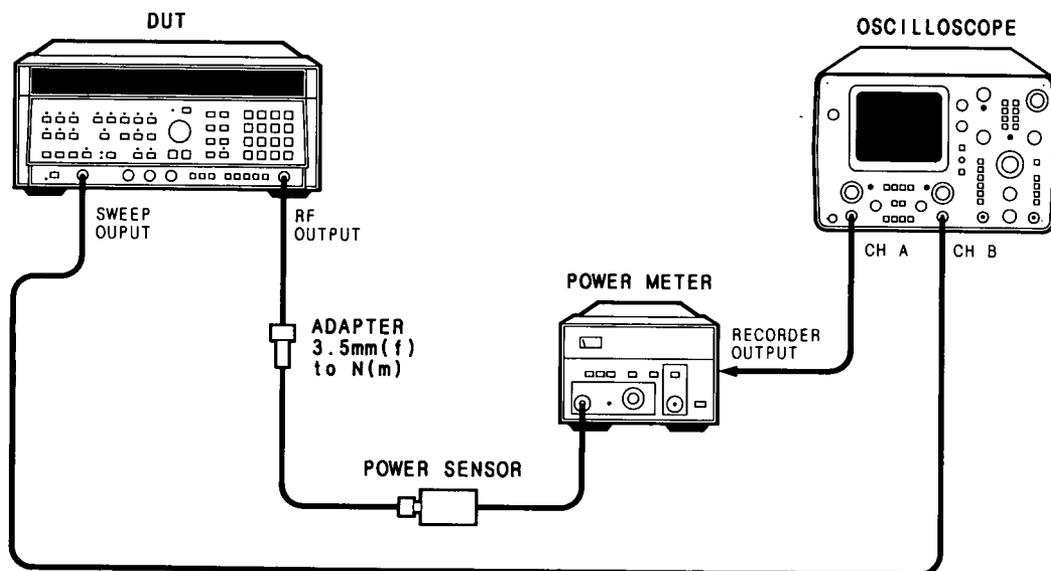

Figure 5-61. RF Output Power Flatness Setup
2. Connect the HP 8485A power sensor to the power meter and then turn the DUT's and the power sensor's LINE switches ON. Connect the oscilloscope as shown in Figure 5-61. Allow 30 minutes for the equipment to warm up.